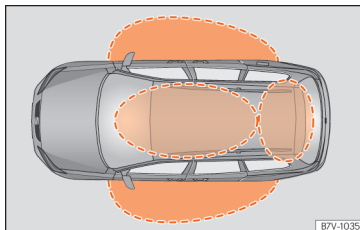
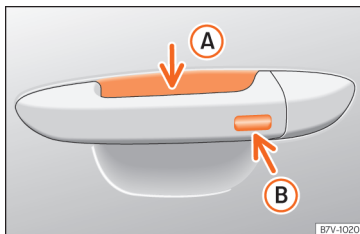

Fig. 91 Keyless Access: proximity zones.
Fig. 92 Door handle: sensor surfaces
» **Fig. 92**
Keyless Access is a key-free locking and ignition system to unlock and lock the vehicle without actively using its key. To do this, all that is required is to have a valid vehicle key in the detection area where you are attempting to access the vehicle » **Fig. 91** and to touch one of the sensor surfaces on the door handles » **Fig. 92** » .
If a valid key is located in the proximity of the car » **Fig. 91**, the Keyless Access lock and ignition system gives the key entry as soon as
- Grip the door handle. When you do this, you touch the sensor surface »» Fig. 92 (A) (arrow) on the handle and the vehicle unlocks.
- Touch (once) the sensor surface »» Fig. 92 (B) (arrow) on the door handle. The door that is used must be closed.
- Touch (once) the sensor surface »» Fig. 92 (B) (arrow) on the door handle. The vehicle locks with the "Safe" security system »» page 104. The door that is used must be closed.
- Touch (twice) the sensor surface »» Fig. 92 (B) (arrow) on the door handle to lock the vehicle without the "Safe" security system »» page 104.
When the vehicle is locked, the rear lid automatically unlocks on opening if there is a valid vehicle key in the proximity »» Fig. 91.
» **Fig. 92 B** within the following 5 seconds. Do not grasp the door handle; otherwise the vehicle will not unlock. Deactivation is also possible if the vehicle is locked through the driver's door lock.
To close all the electric windows and the panoramic sliding sunroof using the **comfort function**, keep a finger for a few seconds on the locking sensor surface » **Fig. 92 B** (arrow) of the door handle until the windows and roof have closed.
The sensor surfaces on the door handles could engage if hit with a water jet or high pressure steam if there is a valid vehicle key in the proximity. If at least one of the electric windows is open and the sensor surface » **Fig. 92 B** (arrow) on one of the handles is activated continuously, all windows will close.